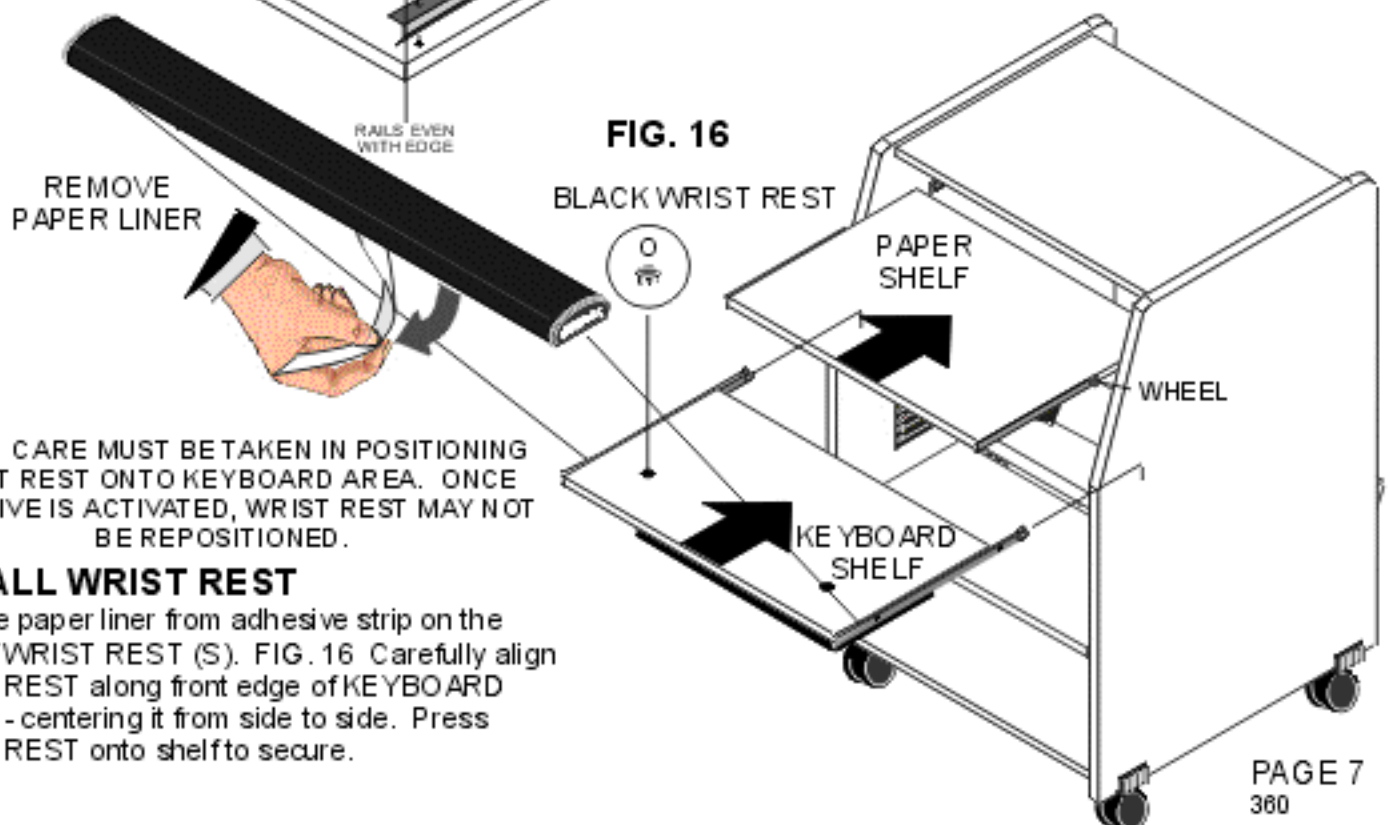

FIG. 16
Align RAILS on KEYBOARD SHELF with lower set of RAILS on cabinet SIDES. FIG. 16 Install KEYBOARD SHELF. Insert (1) cover cap (O) into unused hole on KEYBOARD SHELF.
Install PAPER SHELF onto previously mounted upper 12" CABINET RAILS on unit, wheels first. FIG. 16 NOTE: Wheels on PAPER SHELF RAILS install onto upper set of CABINET RAILS. Align wheels over and behind wheels on CABINET RAILS, push in.
Remove paper liner from adhesive strip on the back of WRIST REST (S). FIG. 16 Carefully align WRIST REST along front edge of KEYBOARD SHELF - centering it from side to side. Press WRIST REST onto shelf to secure.